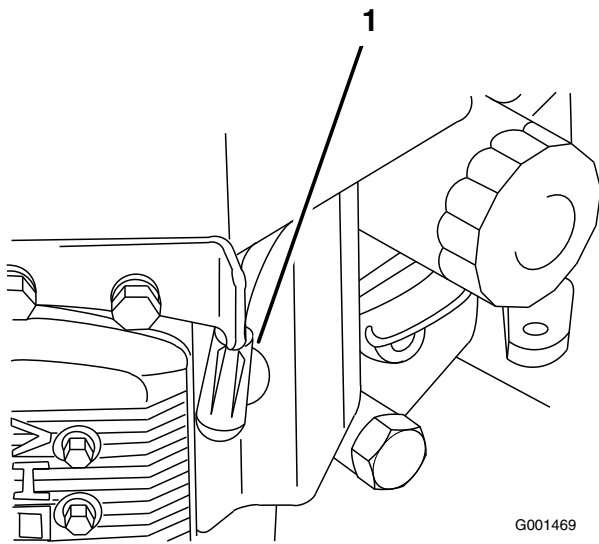

Figure 28
3. Disconnect the wires from the spark plugs (Figure 28).